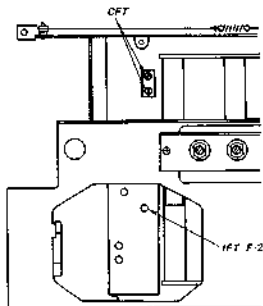

Fig. 3-4. Adjustment locations
**Note:\***2. IFT F-2 is visible to adjust from rear part of the set. Remove the front panel and adjust IFT F-2 from front part. (See Fig. 3-4).
Modulate the rf signal with 400 Hz a-m modulation. Vary the rf signal around 455 kHz to find if frequency of the set. The dial of the rf signal generator shows if frequency of the set when the output power of the speaker becomes maximum. If the peak of the output power is not found around 455 kHz, adjust the ceramic filter cores after removing front panel and dial drum as shown in Fig. 3-4.